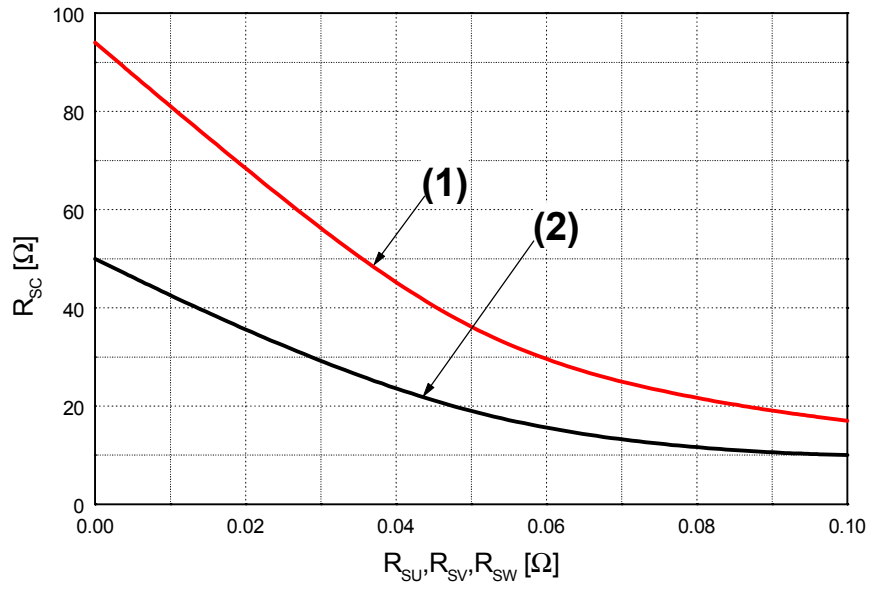

Fig. 6. R_{sc} Variation by change of Shunt Resistors (R_{SU}, R_{SV}, R_{SW}) for Short-Circuit Protection
- Short-circuit current protection is functioning only at the low-sides. It would be recommended that the value of the external sensing resistor (R_{SC}) should be selected around 50 Ω in order to make the SC trip-level of about 22.5A at the shunt resistors (R_{SU}, R_{SV}, R_{SW}) of 0Ω. For the detailed information about the relationship between the external sensing resistor (R_{SC}) and the shunt resistors (R_{SU}, R_{SV}, R_{SW}), please see Fig. 6.